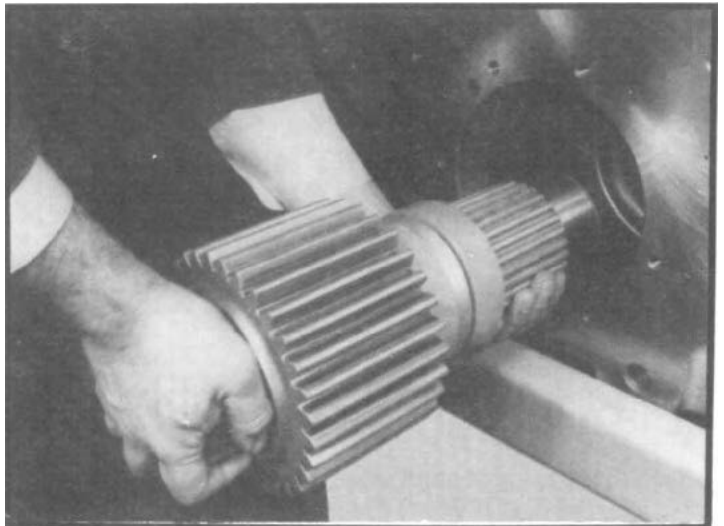

Fig. 84
6. Insert intermediate shaft through front bearing bore and through direct drive gear. (See fig. 84.) Place the spacer ring over the rear of the shaft and against the gear. Tap the front of the shaft into rear bearing.